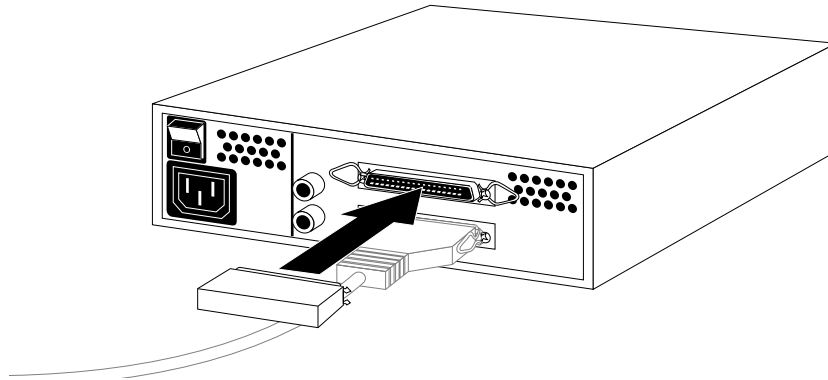

Figure 5-8 Connecting a Terminator to the Last SCSI Device on the Daisy-Chain
5. Connect the active terminator that you received with the external SCSI device to the open SCSI connector on the back of the last device on the daisy-chain, as shown in Figure 5-8. The SCSI connector is designed so that you can put the terminator on only one way if you do not force it.